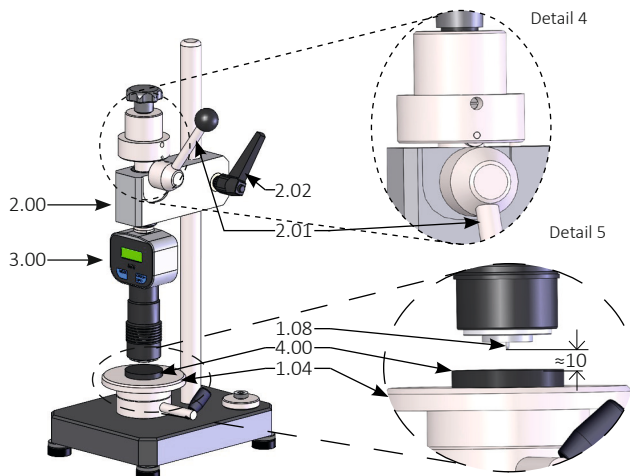

Fig. 6 Hardness test Shore A, B, 0, A0, E, L/c, Asker C
- › Slowly move down the hardness tester (3.00) until the tip of its indenter is approx. 10 mm above the surface of the specimen (see Detail 4, Fig. 6).
- › Gently swing the loading lever (2.01) down until the hardness tester makes a full contact with the specimen and let go of your hand (see Detail 5, Fig. 6).